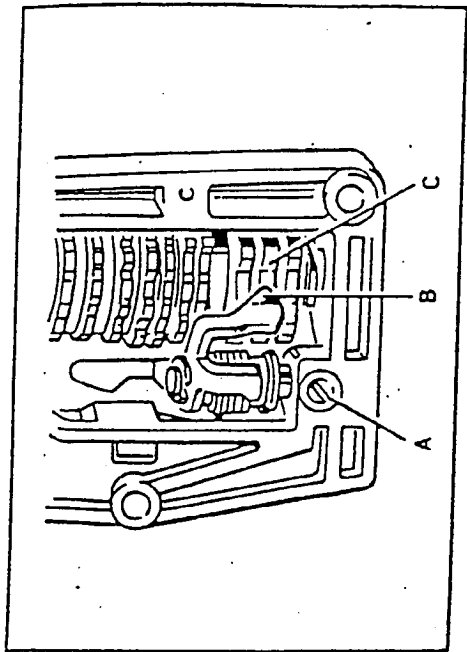

Fig. 5
- turn selector knob again until bringing disc C (fig.5) - the second one from below - against contact finger B and, simultaneously, by turning cam unit by hand, make sure that the sides of the contact finger do not hit any other discs.
- loosen grub screw A (fig. 5) and move contact finger B with relevant pin either upwards or downwards until the desired condition is obtained.